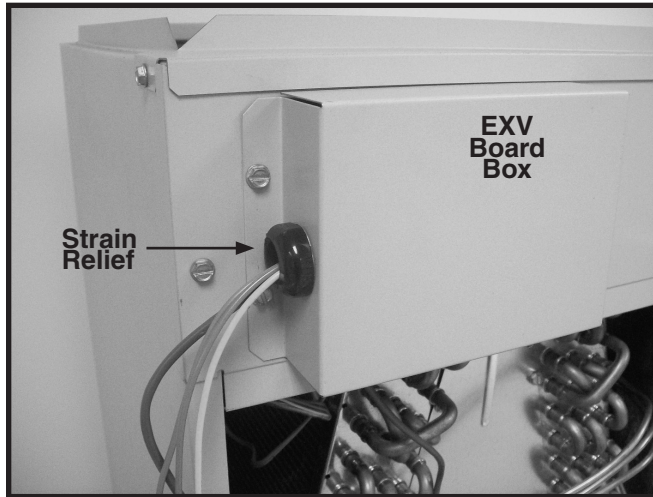

Figure 6. EXV Board Box
10. Route the following wires thru the hole in the EXV board box (Figure 6):
13. Connect the other end of the terminated wires to the Motor Control Board (Figure 6):
- Attach the yellow wire to the “Y/Y2_OUT” Terminal (3).
- Attach the red wire to the “R” Terminal (4).
- Attach the GREY wire to the “C” Terminal (5).